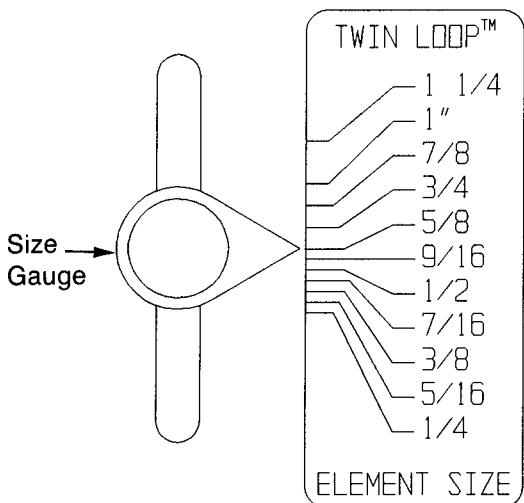

Figure 11
2. The pointer for the Twin Loop Size Gauge (see *Figure 11*) will move up or down. Release the closing height adjustment button when the pointer reaches your desired size. (NOTE: A handwheel is provided on the right side of the closing area. This handwheel can also be used to adjust the height.)